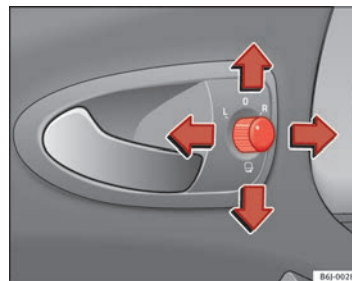

Fig. 68 Controls of exterior mirrors
1. Turn knob ⇒ Fig. 68 to position **L** (left exterior mirror).
- Turn the control ⇒ Fig. 68 to position  to fold in the exterior mirrors. You should always fold in the exterior mirrors if you are driving through an automatic car wash. This will help prevent damage.